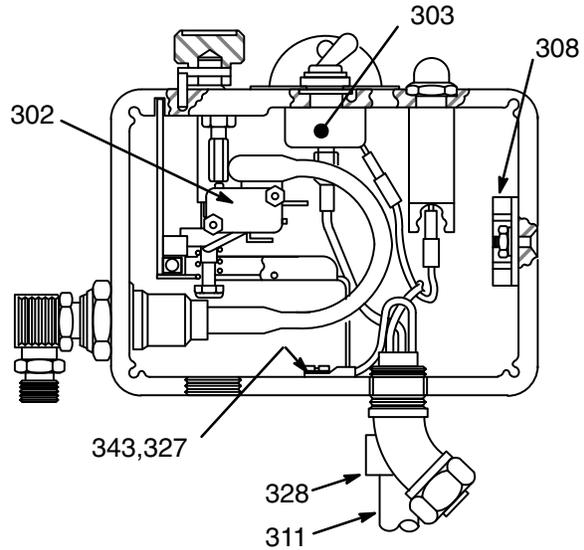

Fig 22-1
See Fig 22-1.
2. Use a needle nose pliers to disconnect the upper terminal wire from the microswitch (302) for ease in removing the ON/OFF switch (303). See Fig 22-1.
3. Use pliers to disconnect the two black wires from the ON/OFF switch (303). See Fig 22-1.
4. Use a 5/8 in. socket wrench to loosen and remove the nut and rubber boot (304) from the top of the pressure control box. Remove the switch guard (305).
6. Install the new switch so the internal tab of the anti-rotation ring (A) engages with the vertical groove in the threads of the switch, and the external tab engages with the blind hole (B) of the pressure control box.
7. Install the switch guard (305), aligning the internal tab with the groove in the threads.
8. Powder the inside of the rubber boot (304) with talcum, then shake excess out of boot.
10. Reconnect the wires to the ON/OFF switch (303) and reconnect the wire to the microswitch (302).